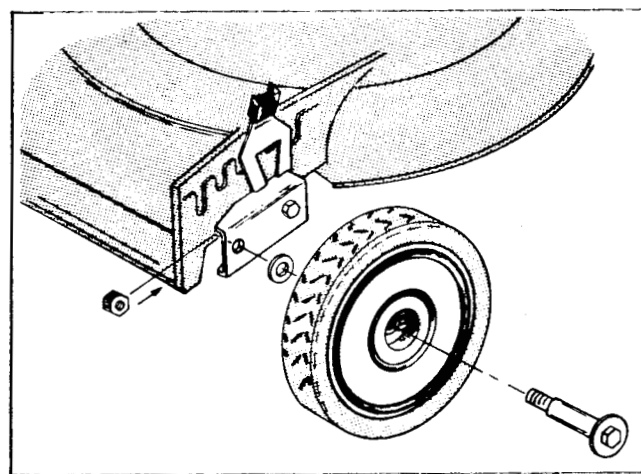

Figure 141
14. See Figure 141. Remove the large shoulder bolt, thin washer and locknut from the left FRONT wheel of mower. (They will not be reused as long as you use the dethatcher. Save these parts for future use.)